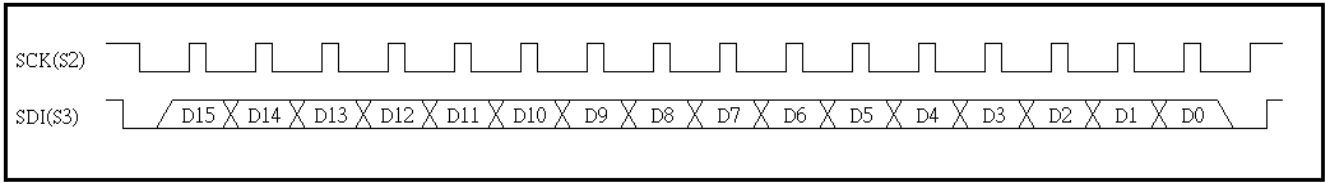
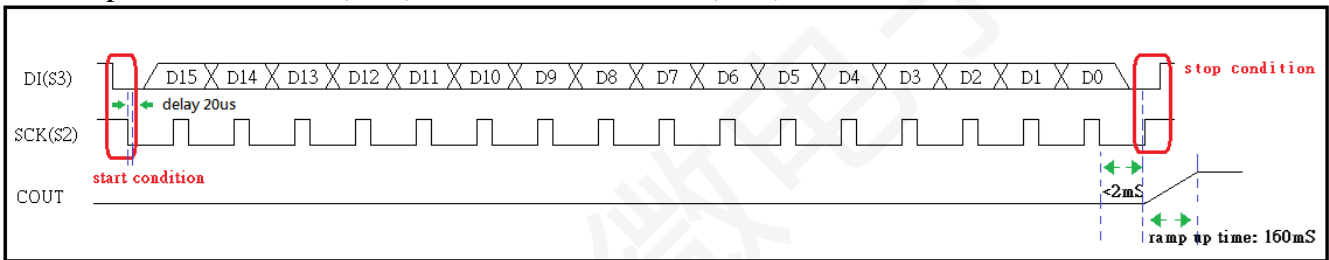
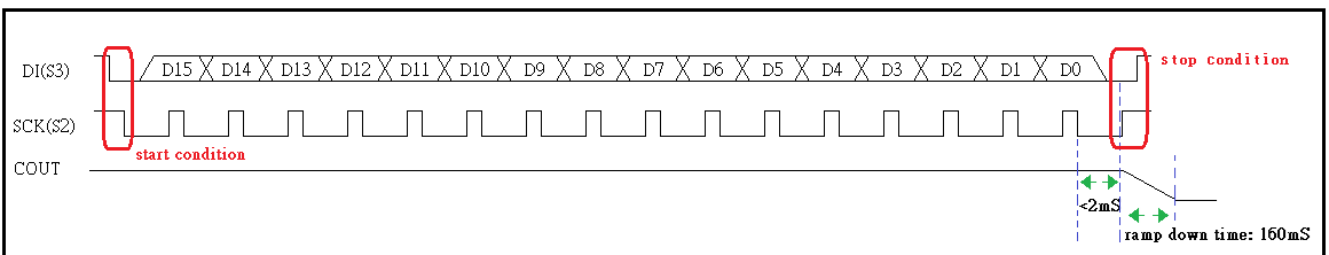

Fig.15 I2C Command timing
Fig. 16 Power-Up command timing
Fig. 17 Power-Down command timing
- (1). Load Voice Group Address :
- a. Command timing reference Fig.15 I2C Command timing.
- (2). Play Voice Group Address :
- (3). Power up with RAMP-UP(PU2) or without RAMP-UP(PU1) :
- a. Command timing reference Fig. 16 Power-Up command timing.
- (4). Power-down with RAMP-DOWN(PD2) or without RAMP-DOWN (PD1) :
- a. Command timing reference Fig. 17 Power-Down command timing.
- (5). Volume Set (VOL[3:0]) :
- (6). Volume ++ (VOL++) :
- (7). Volume -- (VOL--) :
- (8). Pause and Resume (PAUSE; RESUME) :